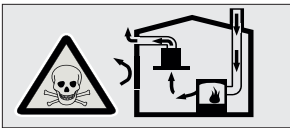

Fig. 2: Poisoning Danger
- Ventilated devices (e.g. gas, oil, wood or coal burning heaters, shower heaters, water heaters) take combustion air from the installation location, and discharge the waste gas through a waste gas system (e.g. flue). When the cooker hood is active, it absorbs air from the kitchen and neighbouring rooms. If adequate air entry is not provided vacuum emerges. In such a case, the toxic gases are absorbed from the flue and waste gas channel, and are taken into to door again. Fig. 2